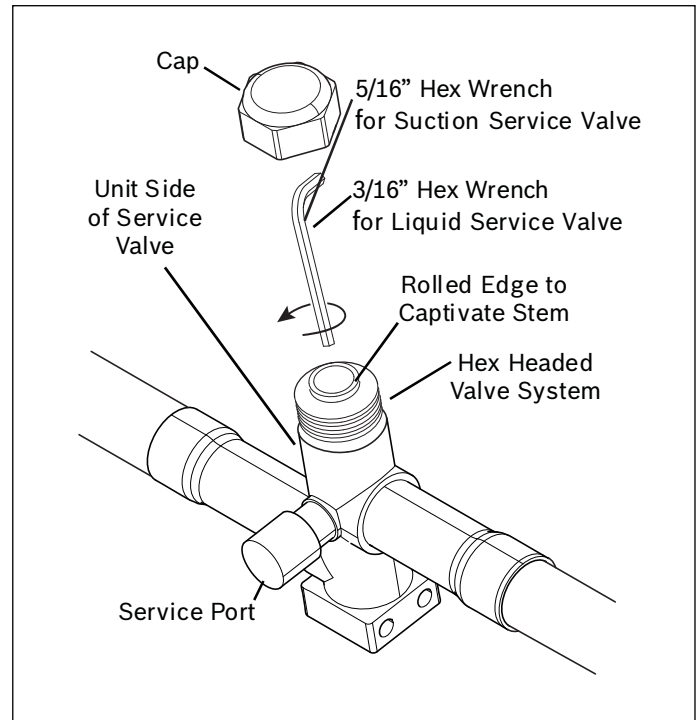

Figure 24
1. Remove service valve cap (Fig 24).
2. Fully insert hex wrench into the stem and back out counterclockwise until valve stem just touches the rolled edge (approximately five (5) turns.)